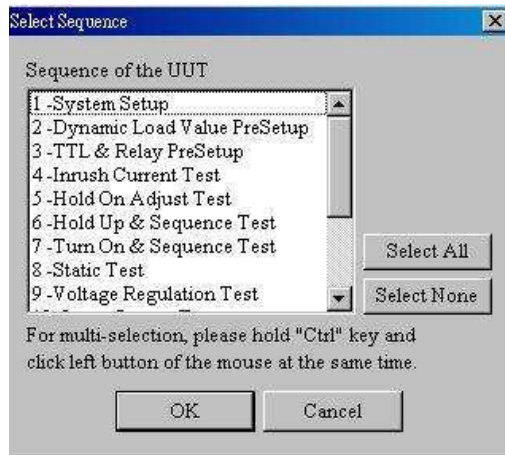

Figure 9-6 Select Sequence Window
4. If you wish to know the sequence of a UUT, select a UUT serial no. and then click **[Show] → [Sequences...]** to prompt a window as Figure 9-6 shows. The Sequences of the UUT list box will show the sequence of the UUT.